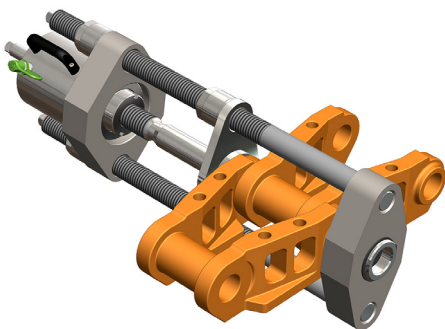

fig. 25
3. Screw the center spindle in until it is again clamped against the press pin or the new end bolt, fig 25.